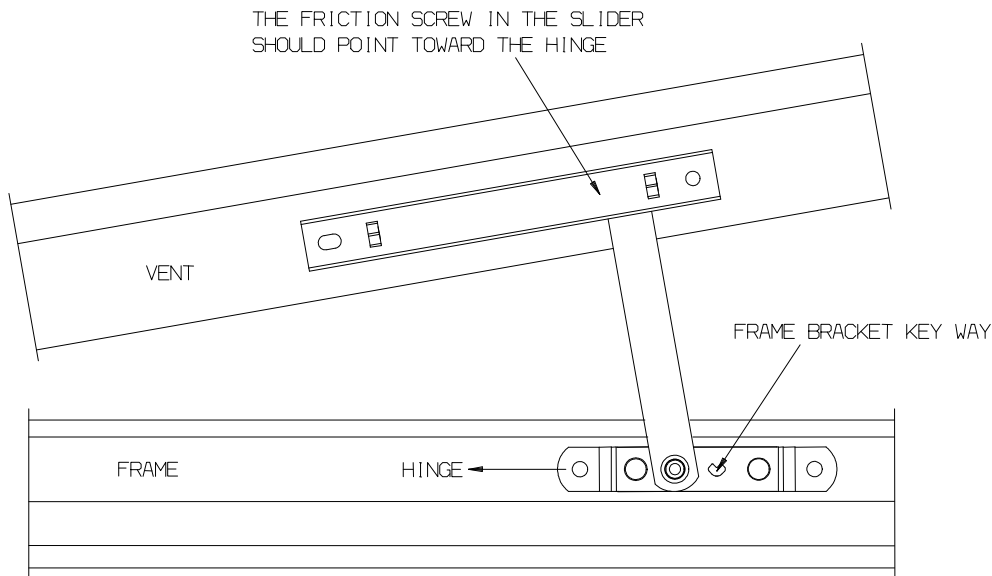

Fig. 6
- 2.1.23 Position the Restrictor Stay Frame Bracket inline with the track of the hinge, parallel with any sideways hinge location features or in the hinge location channel on the vent ensuring that the Vent Bracket is orientated so that the keyway is pointing away from the hinge. See Fig. 6. If the vent does not have hinge location features, determine the correct position by referring to the profile manufacturers fabrication manual and measuring/markings, ('Fitting Instructions: Positions and Clearances' will help).